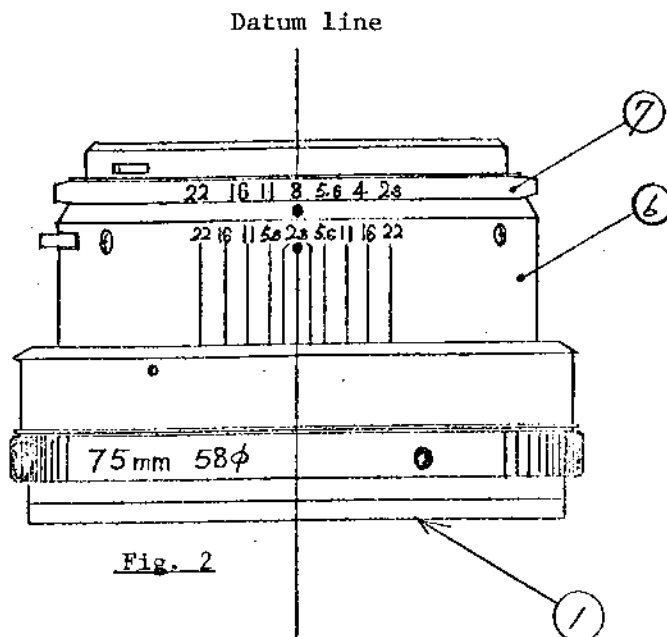

Fig. 2
Confirm that relationship between the position of inscribed marks of the aperture ring (7) and that of depth of field scale ring (6) is on the datum line shown in Fig. 2.